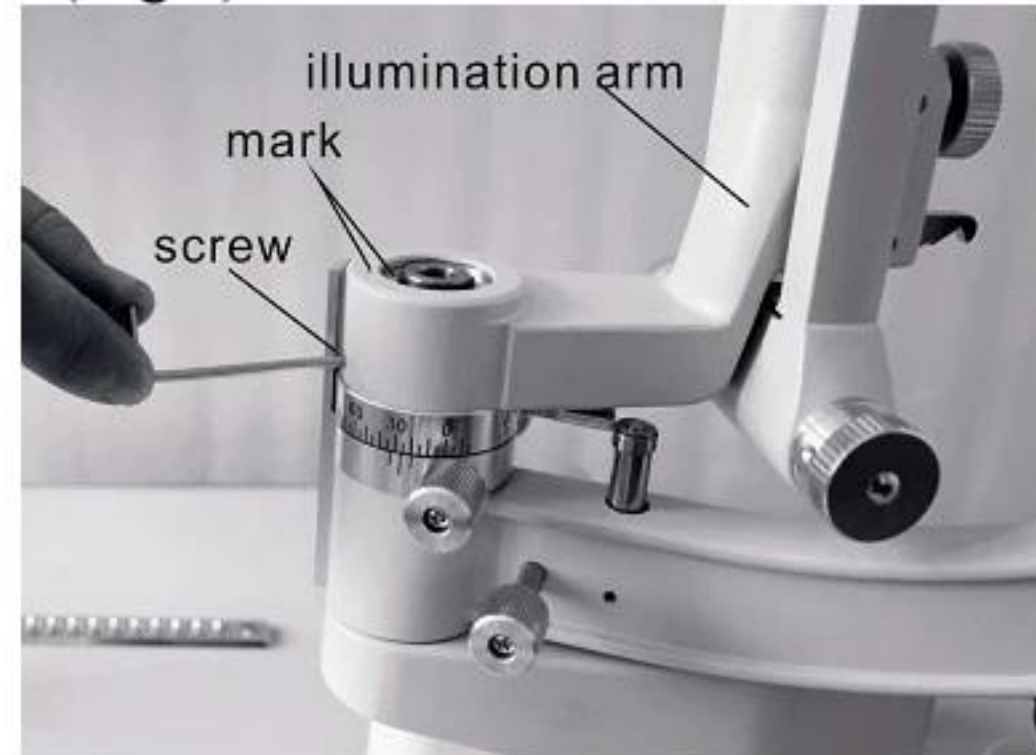

Fig.9
simultaneously the two red marks stretch in one line (Fig.9).
- ✧ After the two red marks accurately aligned, retighten the setscrews (Fig.9).